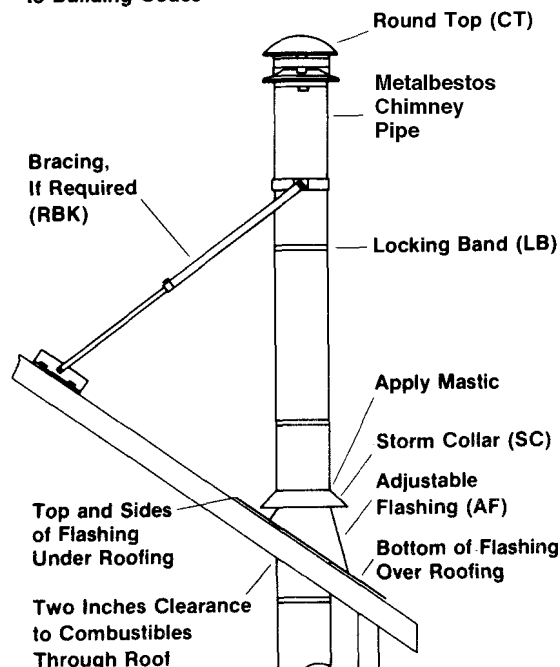

FIG. 2 CHIMNEY FLASHING & BRACING
3. Finish roofing around chimney, covering the side and upper areas of the flange with roofing material. However, be sure the lower unnailed portion of the flange covers the roofing material. See Fig. 2.
1. Install Flashing and Storm Collar in usual manner. See Fig. 2.